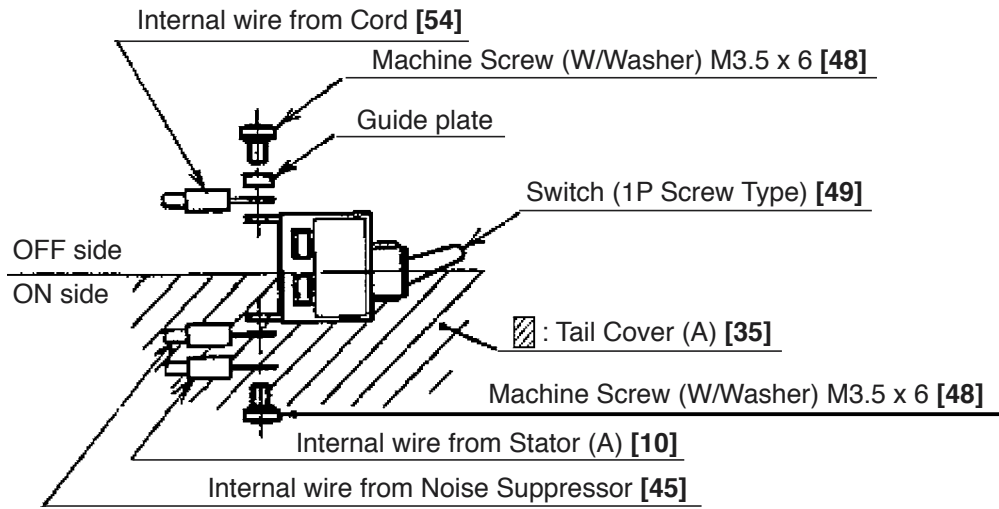
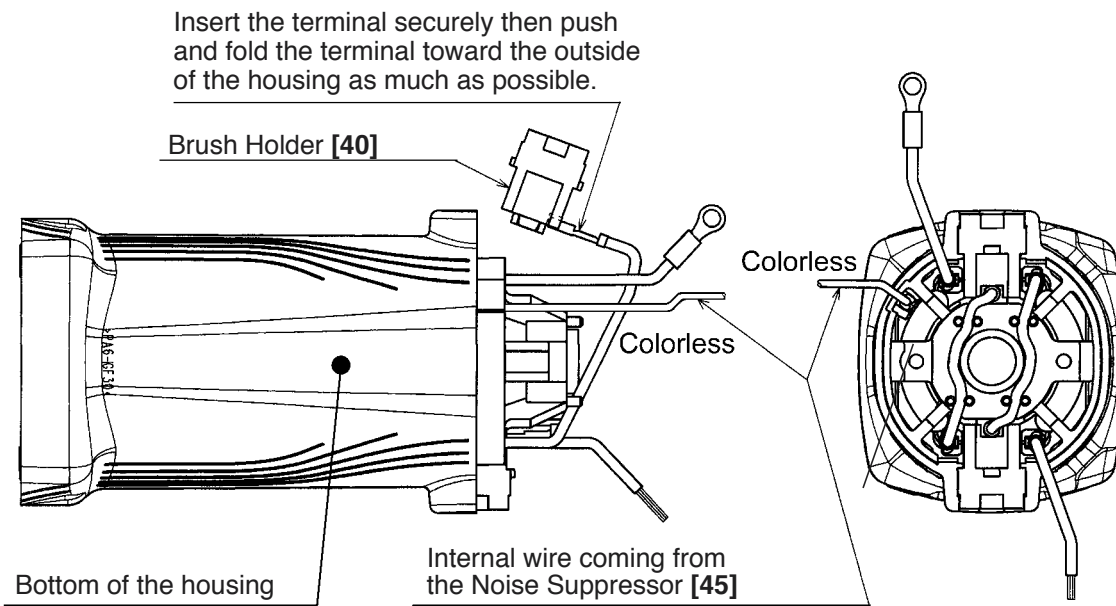

Fig. 8
Fig. 9
- (7) Connect the internal wires of Stator (A) [10] correctly as shown in Fig. 8 and Fig. 9.
- (8) Connect each internal wire correctly as shown in Fig. 9 being careful not to put them between the parts.